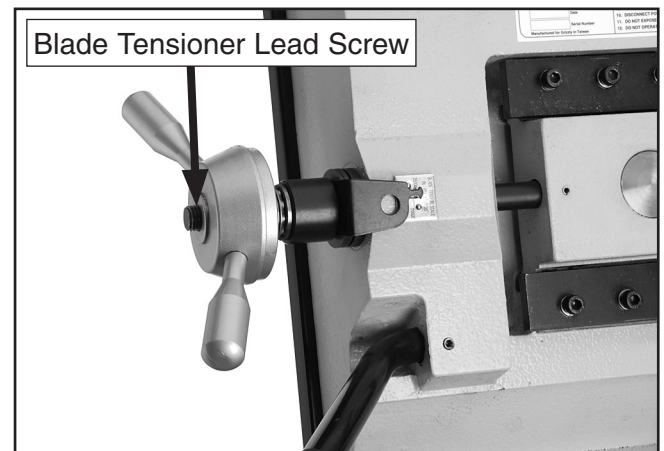

Figure 45. Lubrication point.
1. Lubricate the blade tensioner leadscrew (**Figure 45**) with multi-purpose grease, and apply a coat of high-quality metal protectant such as SLIPIT® on **Page 40** to all unprotected cast iron surfaces.